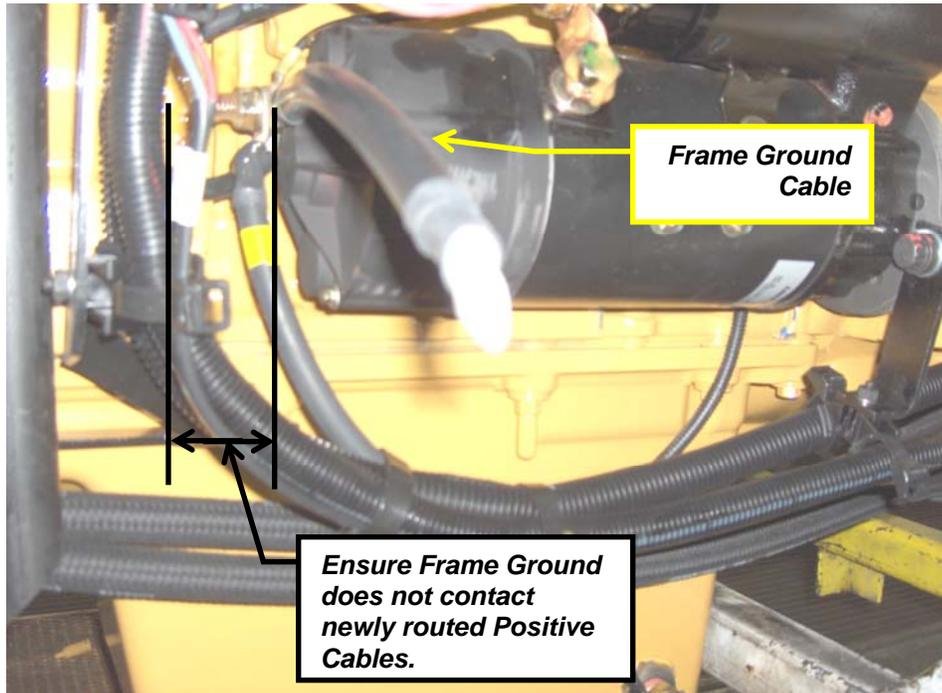

Figure 32 – Frame Rail Removed for Clarity
**TO PREVENT CHAFING OF THE POSITIVE CABLES AGAINST THE FRAME GROUND CABLE (SEE FIGURE 31), PLEASE ENSURE FRAME GROUND CABLE IS NOT IN CONTACT WITH THE NEWLY ROUTED POSITIVE CABLES, SEE FIGURE 32.**